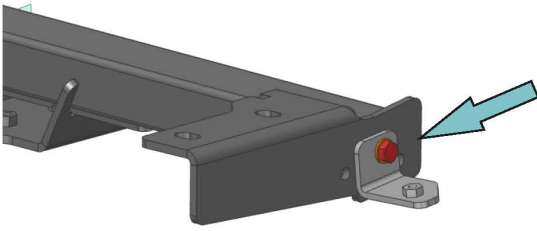

Fig. 13
13. Remove transport brackets before starting the installation. Unscrew bolts M12x1.25x40 (item D) and washers 12 (item G), preinstalled as travel hardware, in bumper bracket (item 2) (Fig. 13)